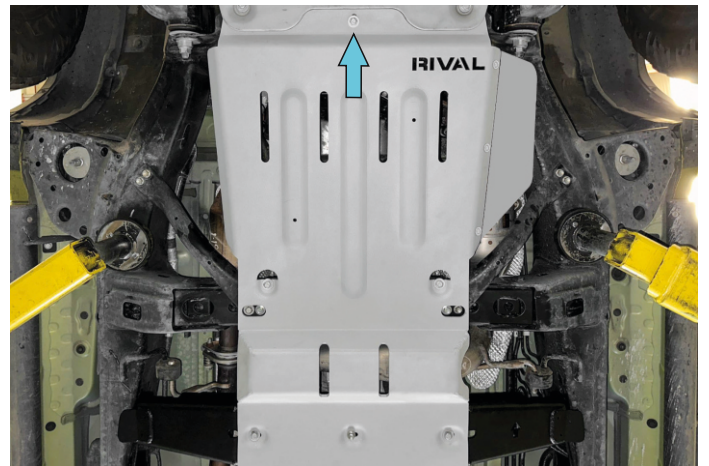

Fig.16
15. Secure the front of the skid plate to the previously installed M8x80 insert nut in step 5 (item E) using M8x30 bolt (item A) and M8 flat washer(item D) (fig.16).